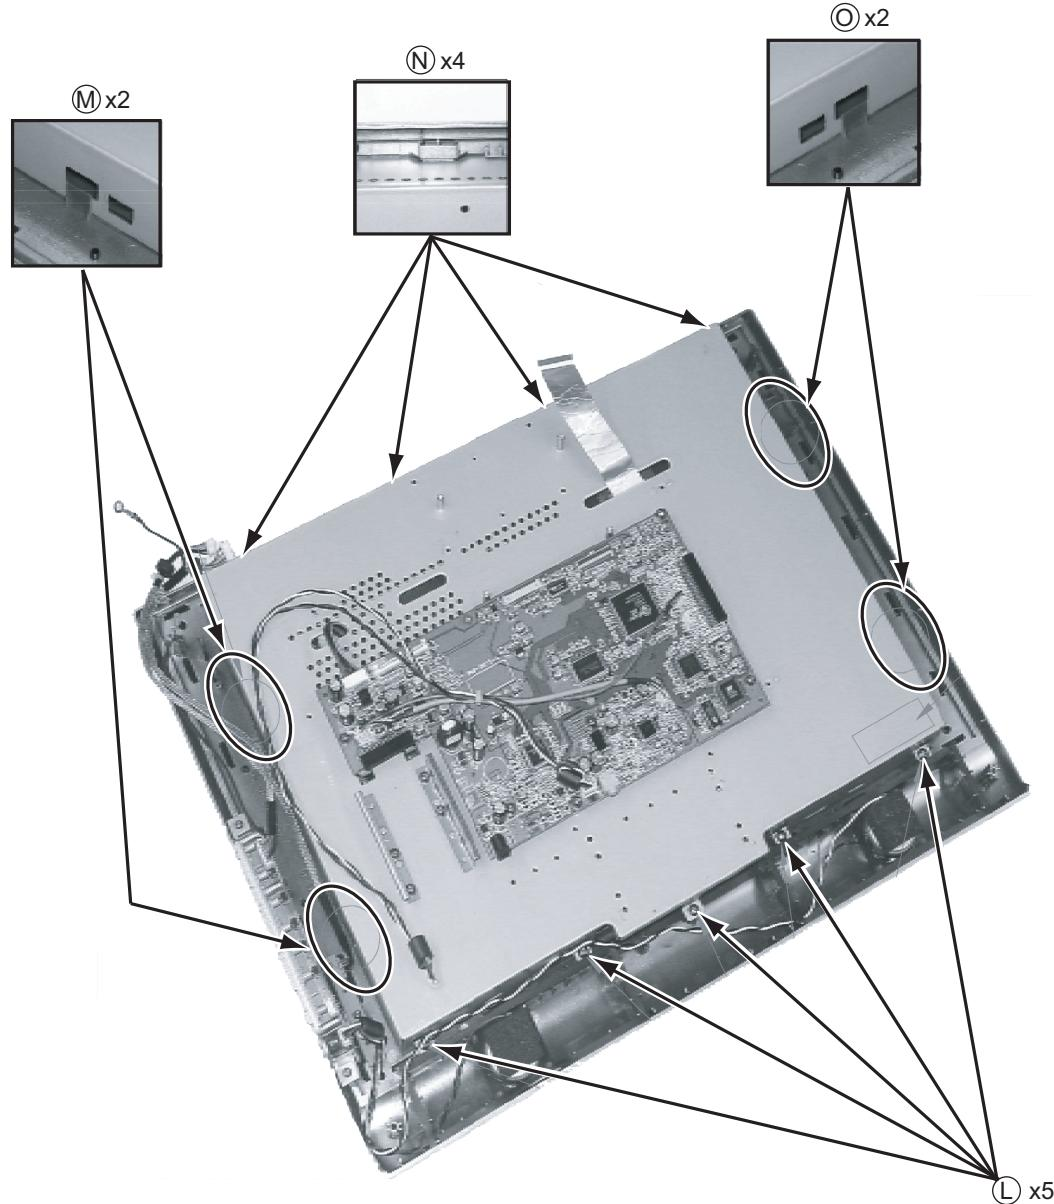

Fig.7
3.1.8 REMOVING THE LCD PANEL UNIT (Fig.7, 8)
- (1) Remove the 5 screws [L]. (Fig.7)
- (2) Remove the 2 claws [M], 4 claws [N] and 2 claws [O] and remove the LCD PANEL UNIT and LCD BRACKET. (Fig.7)